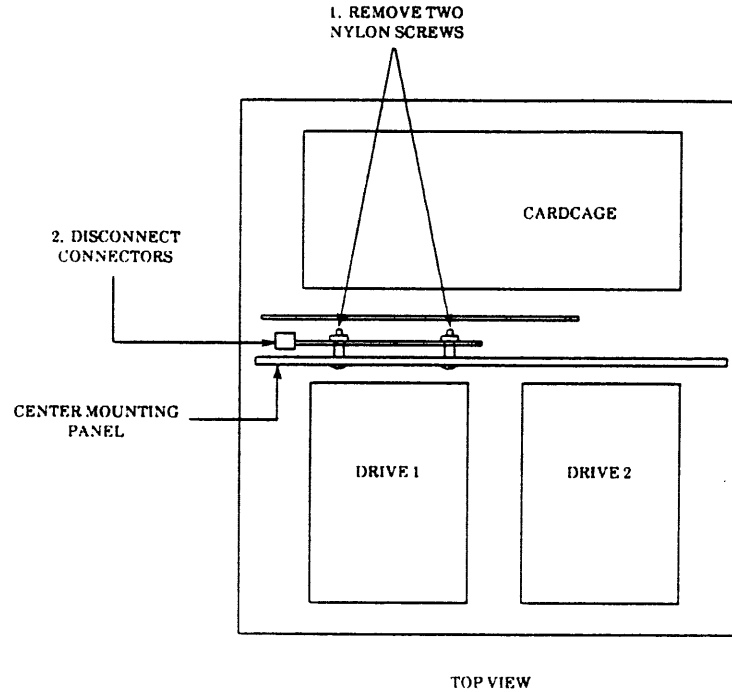

Figure 3-5. Data Separator Removal
2. Referring to Figure 3-5, carefully remove the nylon nuts and screws holding the top of the data separator circuit board to the center mounting panel.